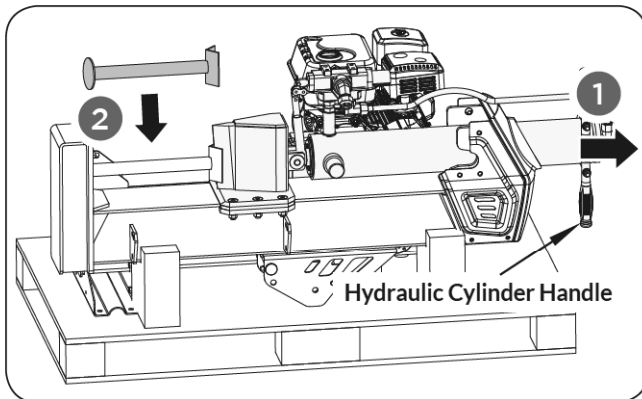

Figure 2a
1. Holding the cylinder handle to slowly drag the cylinder about 13.8 inch outward (See **Figure 2a**, illustration 1). then put the wedge landing supporter against the beam base and wedge (See **Figure 2a**, illustration 2).